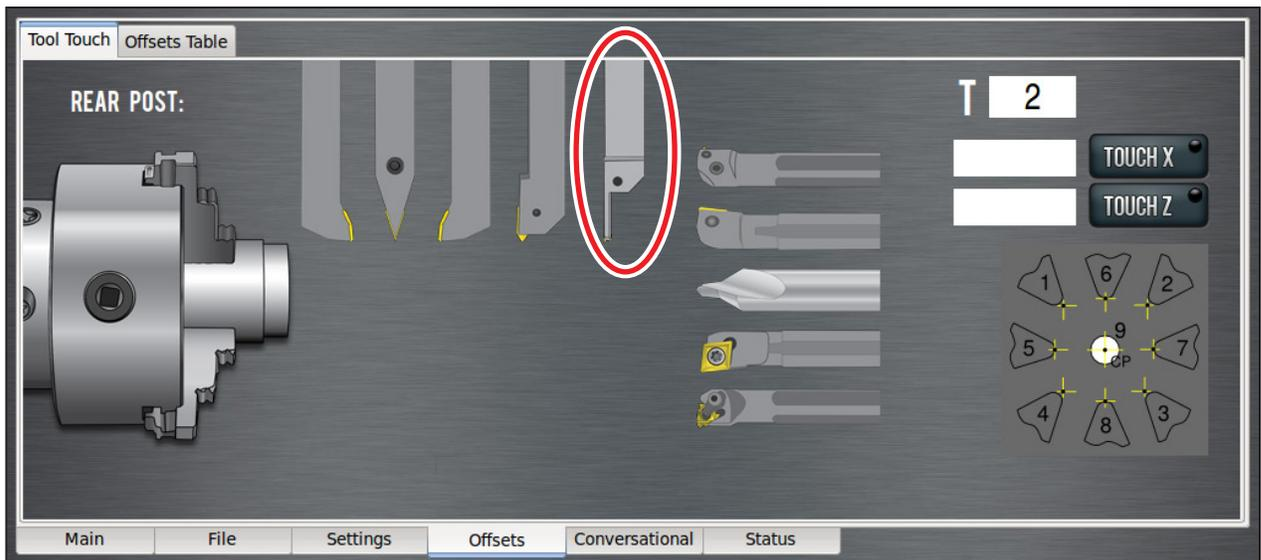

Figure 4.18
4. Select parting tool (see **Figure 4.18**).